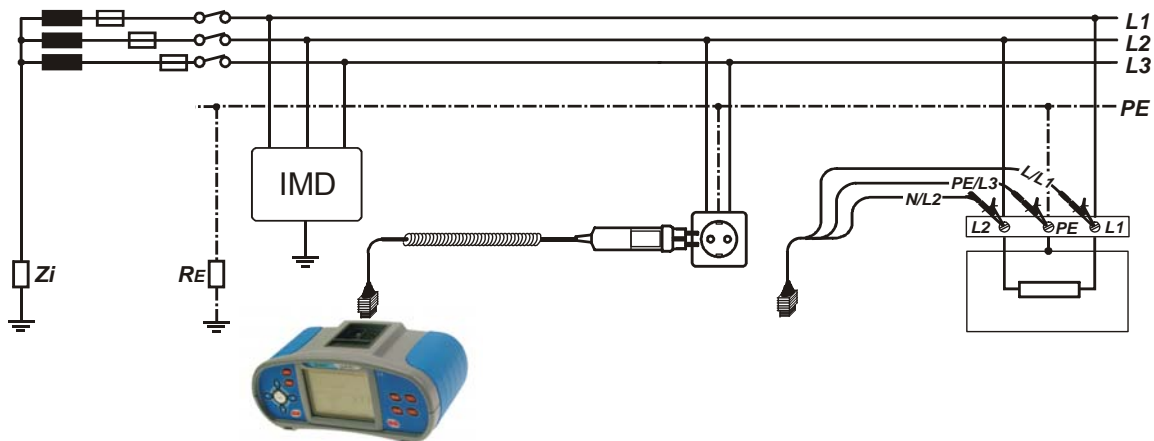

Figure D.8: Measurement of highest first fault leakage current with plug commander and universal test cable
- ❑ **Connect** test cable to the instrument and tested installation (see figures D.8 and D.9).